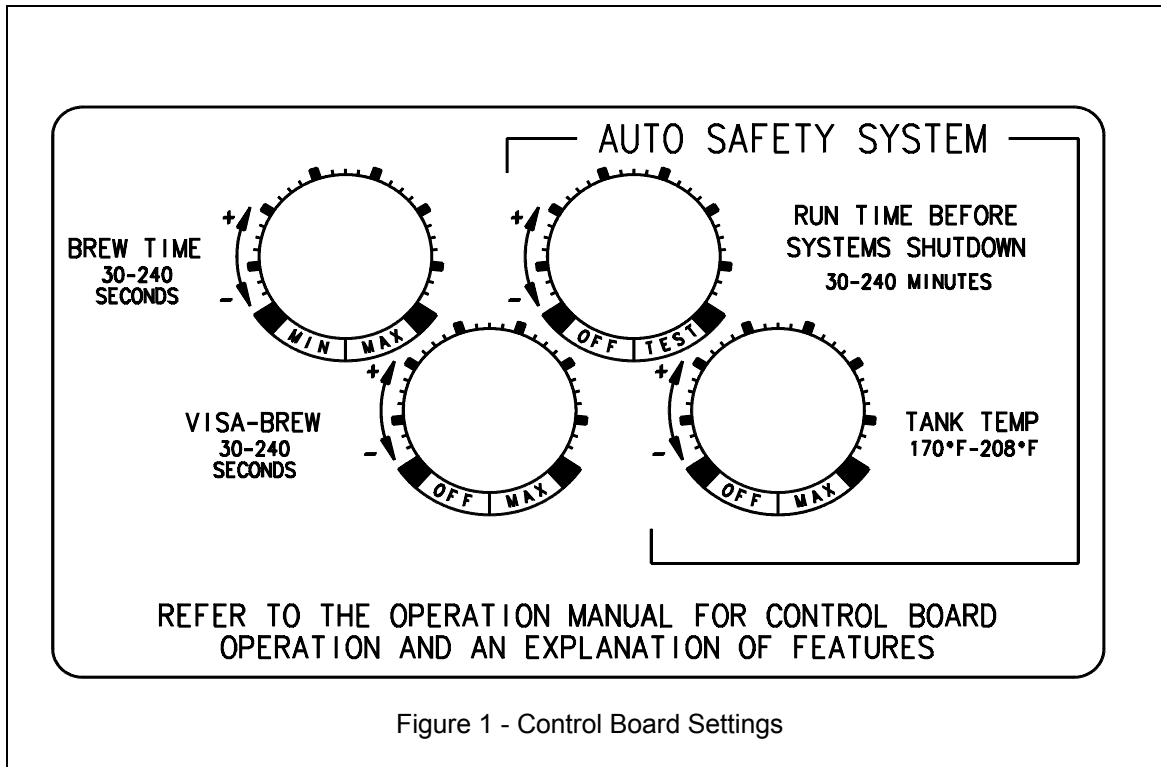

Figure 1 - Control Board Settings
- 3) When water begins to flow from brew basket the brew cycle may be canceled by depressing the power switch. Allow water to finish draining from the unit and then empty the decanter and replace below brew basket. Turn power switch back on and depress the brew start switch. After the brew cycle has finished check volume of water in the container. Adjust the "Brew Time" with the control board located behind right side access plate. Turn the dial Clockwise to increase the volume of water and counterclockwise to decrease it. See Fig 1 on page 5 for control board setting information.
- 4) Allow 10-15 minutes for the water in the tank to heat to brewing temperature. Depending on the "Tank Heater Mode" Selected with switch on the back of unit it may be necessary to have the power switch on for the tank to heat up to operating temperature. The heating light will go out when the unit is up to temperature. Run one brew cycle to check for the proper temperature setting with an accurate thermometer. Take the temperature of this water at a point below the brew basket opening, at the start of the brew cycle and when the decanter is half full. Recommended temperature of the water is approximately 195 F. (Note: Brew cycle may be canceled by the "On/Off" switch). The brewer features an electronic temperature control circuit and the temperature may be adjusted with the control board located behind the right side access plate. See Fig 1 on page 5 for control board setting information.
Digital Brew Timing is accurate to within .1 seconds over the entire adjustment range of 30 to 240 seconds. Brew time adjustment knob may be turned down during the brew cycle until brewing stops. Can aid in setting the unit up. See Fig 1 on page 5 for setting information.
Visa-Brew continues to flash the brewing light after the fill portion of the brew cycle has stopped alerting the user that the brewed hot coffee has not finished draining from the brew basket. this popular feature has been enhanced with an autocal feature. Simply turn the adjustment dial all the way up, start a normal brew cycle as described under the "OPERATION INSTRUCTIONS", and after the brewed coffee has quit dripping from the basket turn the dial down just until the light quits flashing. Visa Brew is now custom set for your machine, filters, and coffee. See Fig 1 on page 5 for setting information.